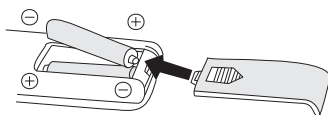

Fig 2
**2** Insert the batteries, and make sure that the batteries are placed as shown in the Fig 2.